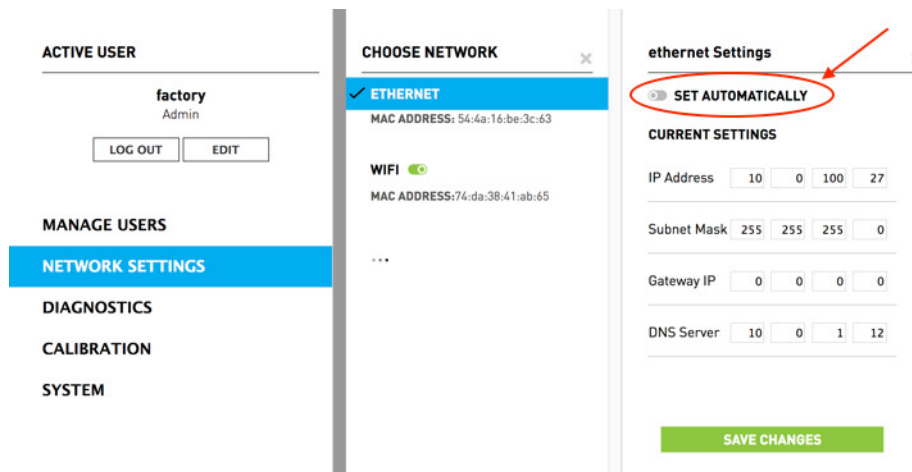

Figure 2.2
- 2) Select **Ethernet**. Ensure that the toggle next to **Set Automatically** is in the off position (Figure 2.2).